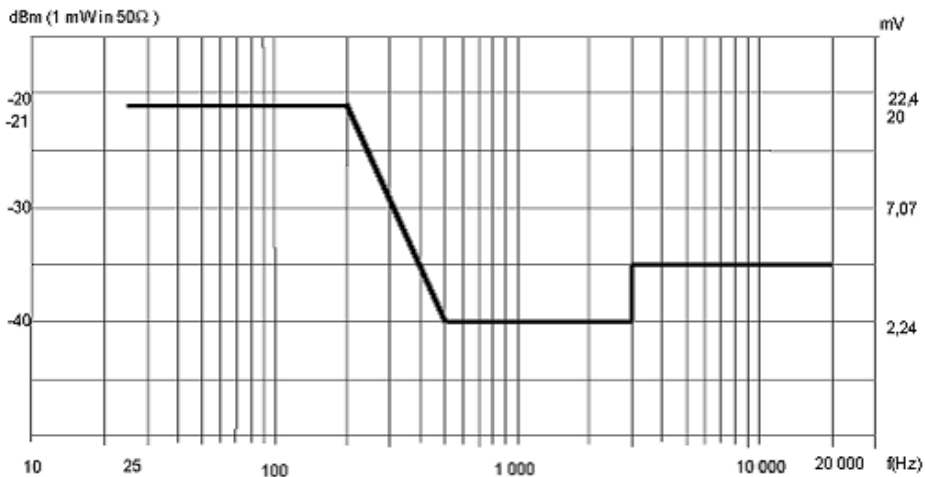

Figure 7: Maximum levels of narrowband noise
(9) Emissions of narrowband noise	In accordance with Table 2 and Figure 7, ETSI EN300 132-2 V2.2.1 (2007-05)